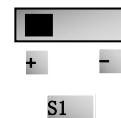
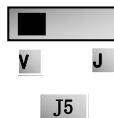

Fig 5-12
Fig 5-13
- (7) There is a toggle switch S1 at the side of control terminals, please refer to Fig 5-12. S1 is used to select the voltage input range of AI1 channel. When turning S1 to “+”, the input range is 0~10V, when turning S1 to “-”, the input range is -10~10V.
- (8) Close the switch DI3, the motor starts forward running;
- (9) The potentiometer can be adjusted and set during running, and the current setting frequency of the inverter can be changed;
- (10) During running process, switch off the switch DI3, then, close DI4, the running direction of the motor will be changed;
- (11) Switch off the switches DI3 and DI4, the motor will decelerate until it stops running;
- (12) Switch off the air switch, and power off the inverter.
- (13) Analog output terminal AO2 can only output current signal, AO1 terminal can output voltage and current signal, the selecting switch is J5, please refer to Fig 5-13, the output relation is shown in table 5-4.